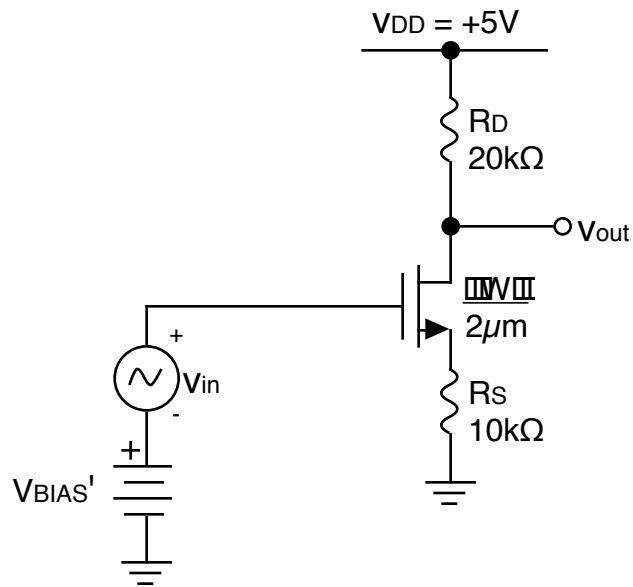

Figure 2b.
- d) Your design from part (a) is modified by inserting resistor R_s in series with the source, as shown in Figure 2b. With the same MOSFET width W , V_{BIAS} is adjusted to a new value V_{BIAS}' so that the DC operating point at the output remains the same and the MOSFET is still in the active region. Will the small-signal gain decrease, remain the same, or increase? [1]